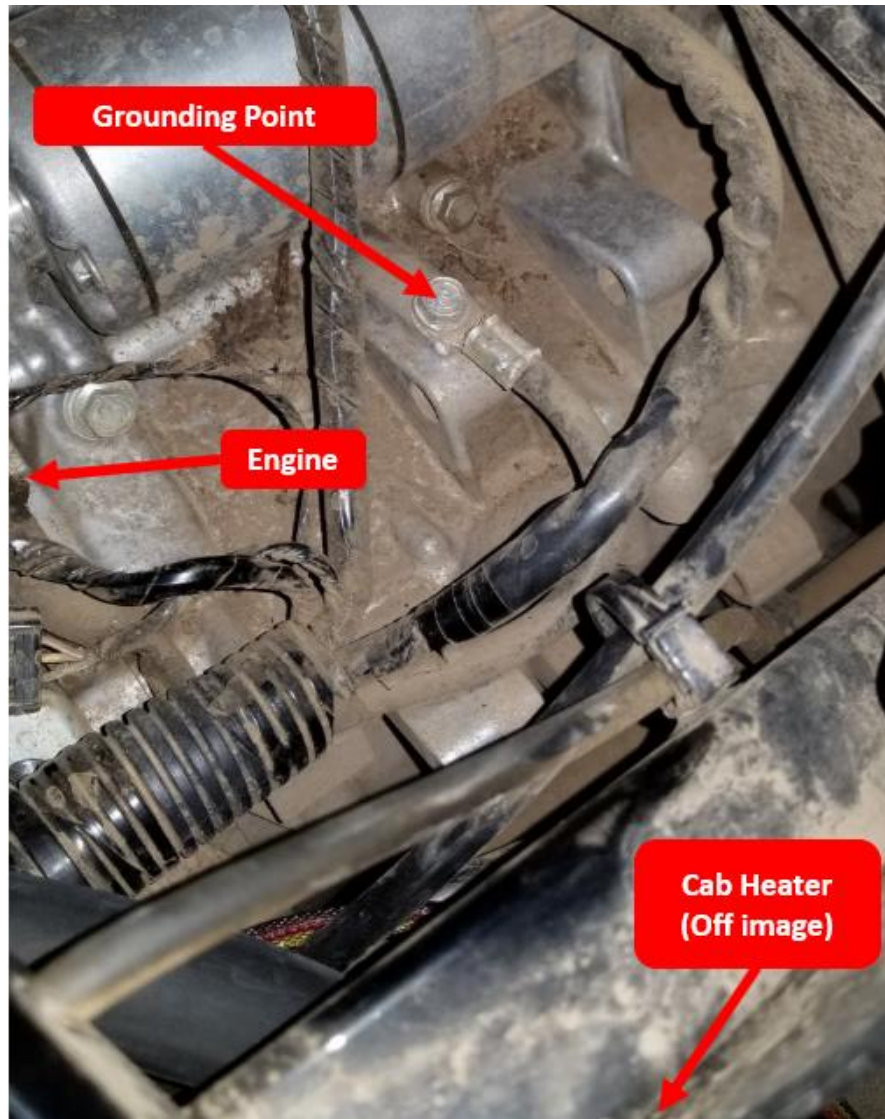

Figure 14
37. Route the Single Black Conductor back through the 5/8" hole that the 3 Conductor Wiring Harness comes through. Toward the rear of the vehicle, on the engine is a ground attachment point. Attach the ground cable as shown in Figure 14.